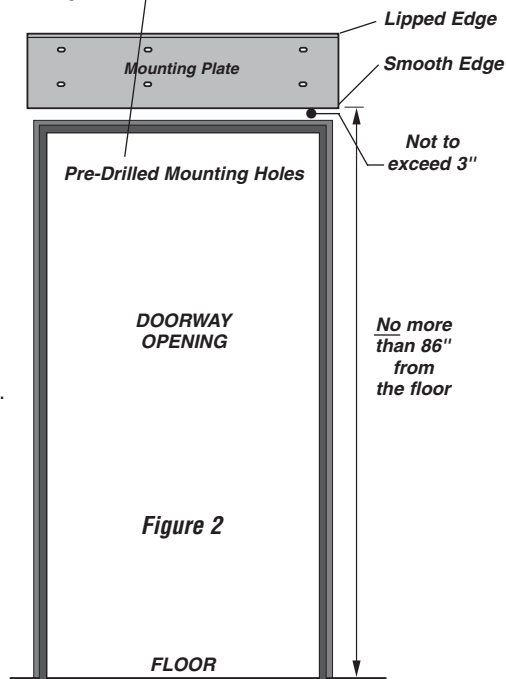

Figure 2
2. Keeping the mounting plate level, center it over the doorway opening. Be sure the lipped edge of the plate is at the top. **Figure 2.** **Note:** The bottom edge of the mounting plate should be no more than 108" from the floor.